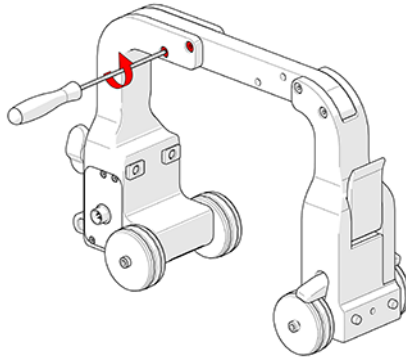

Figure 3-3 Remove shoulder screws
1. Use the supplied 2 mm hex driver to remove the two shoulder screws (see Figure 3-3 on page 46).